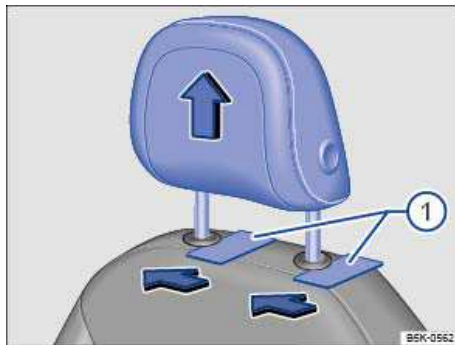

Fig. 39 Removing the front head restraints.
- Slide a flat object, such as a plastic credit card, underneath the right side of the cap (left side if sitting behind the head restraint) on the right-hand seat guide rod ⇒ fig. 39 \(1\) to unlock the head restraint.
- Push the head restraint down ⇒ fig. 39.